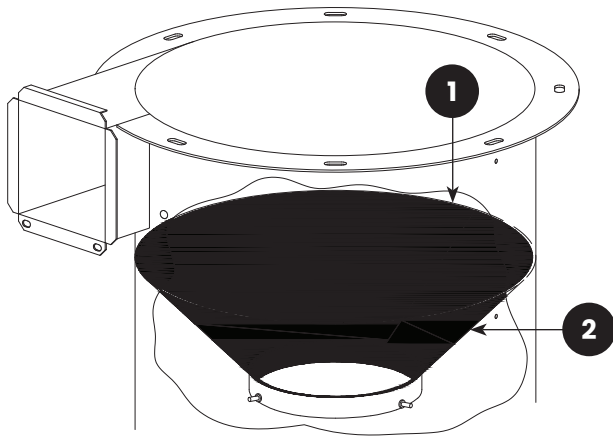

FIGURE 11: (1) Cone Liner; (2) Cone-Ring Liner
7.3.13 | The cone liner and cone-ring liner, shown in **Figure 11**, are glued onto the inner cone. Pull off the liners to remove them.